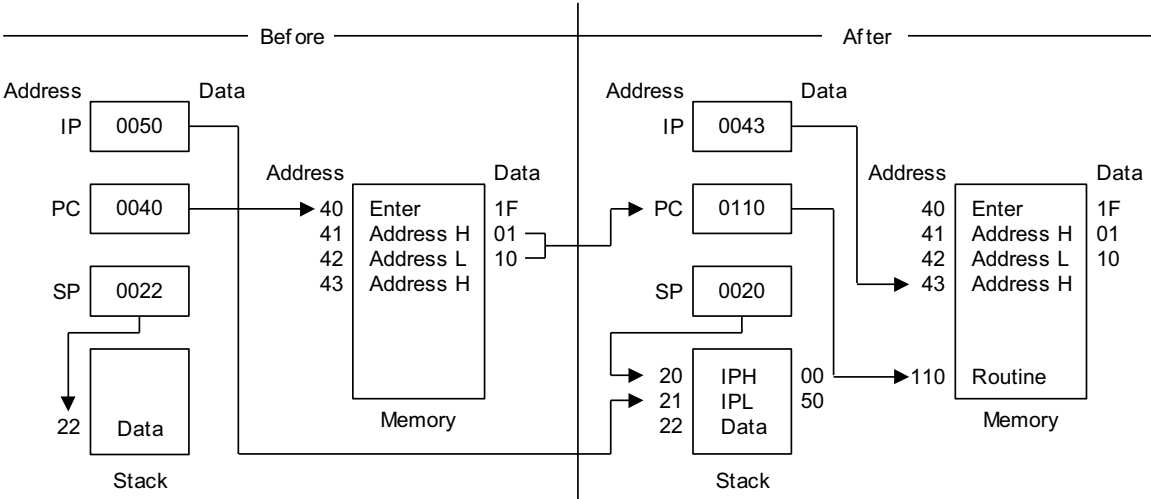

Figure 50. How to Use an ENTER Statement
**Example** Figure 50 shows an example of how to use an *ENTER* statement.